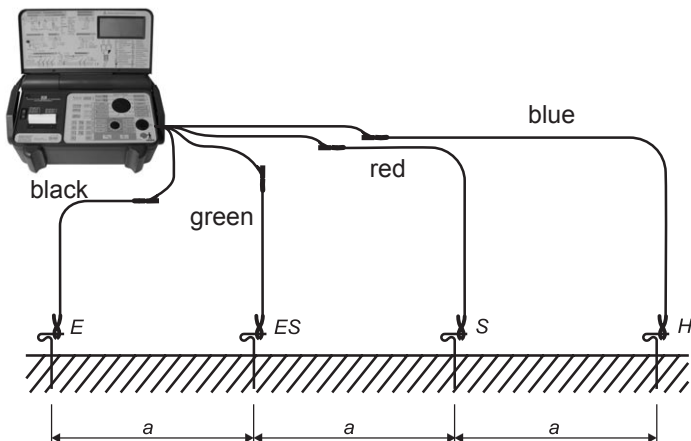

Figure 6.6.2: Connection test leads
▶ Connect the 4-pole test leads to instrument, measurement connector (17).
▶ Place the four earth rods for E, ES, S, H in one line, if possible, in accordance with Figure 6.6.2. The distance between each probes must match the previously selected distance. Carefully place the test leads making sure that the test leads are not parallel to each other and do not cross to avoid coupling.
▶ Press the key "START" (2). The test voltage will be applied to the test object for approx. 2 seconds or is applied as long as the key is held pressed. Immediately on completion of test, the UUT is automatically discharged.